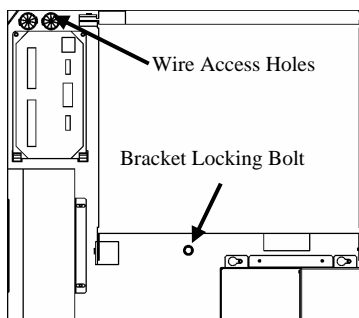

Figure 3-B – Inside View of the Top of Cabinet
1. Remove the mounting bracket locking bolt from inside the jukebox (Figure 3-B) to release the mounting bracket from the back of the jukebox.
3. Prepare the wiring. The power cord should be attached to the back of the jukebox near the bottom before mounting. The speaker and other wiring enter the back of the jukebox near the top of the hinge side (see Figure 3-B).
5. Lift the cabinet onto the wall bracket. It will have to be lifted about 2" higher than its intended height. Keep it centered within the tape lines and keep the back flat against the wall, while slowly lowering it onto the bracket. When it has dropped into the slots, replace the bracket locking bolt (see *Figure 3-B*). This prevents the unit from being lifted back off of the wall bracket.